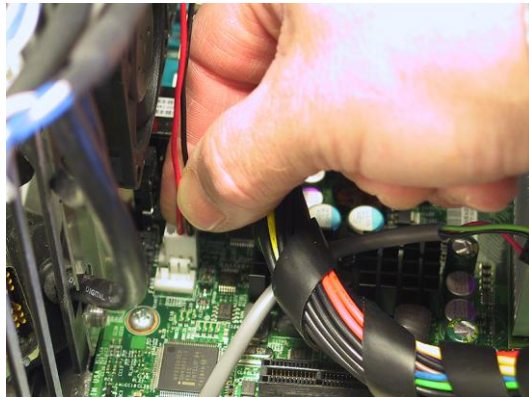

Figure 5-75
- 2) Disconnect the external cooling fan assembly's power supply cable from motherboard. Simply pull it away using your fingers as shown in Figures 5-75 and 5-76.